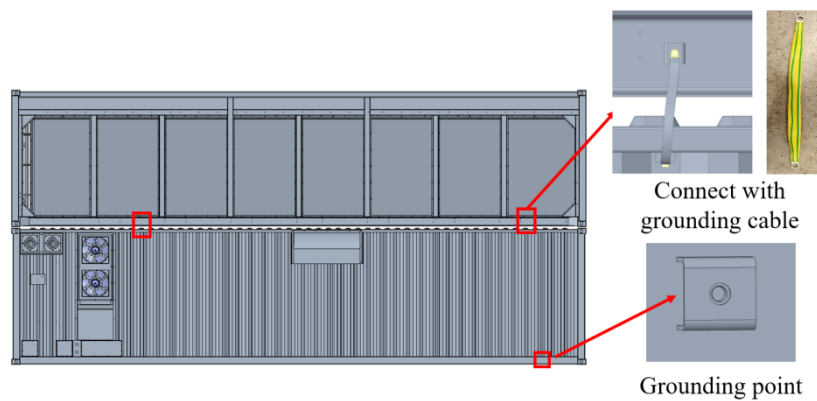

Figure 6.17 Schematic of the container grounding point
- b) There are grounding studs on both sides of the container, and the container's shell must be reliably grounded. It is necessary for the container to have at least two diagonal and reliable grounding points on the diagonal. And the top of the container and the bottom of the dry cooling tower are both equipped with grounding points, which are connected by grounding yellow-green cables, with specific positions shown in Figure 6.17.